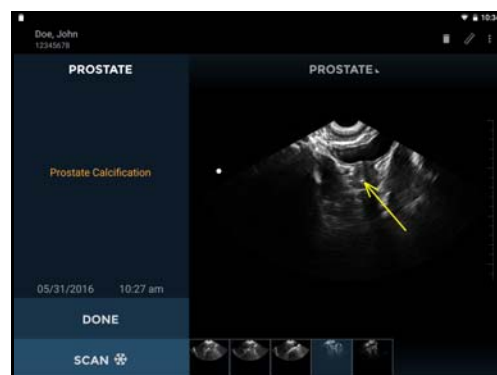

Fig 3.15 Arrow
- Arrows highlight part of the image, but do not perform a measurement (see Fig 3.15).